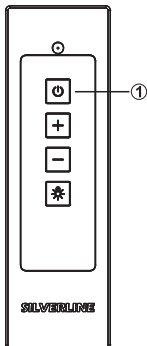

Fig. 15
- ➔ Press the ( ) button on the ( ) remote controller (Fig. 15).